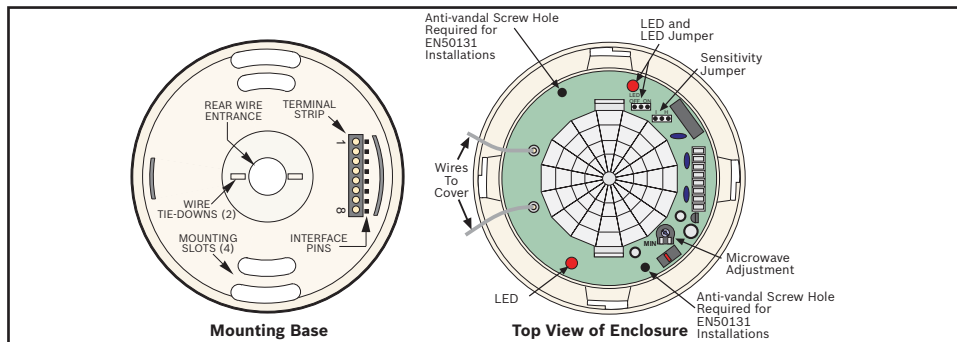

Figure 2.2: Mounting
3. Route wiring as necessary to the rear of the base and through the center hole. Refer to *Figure 2.2*.